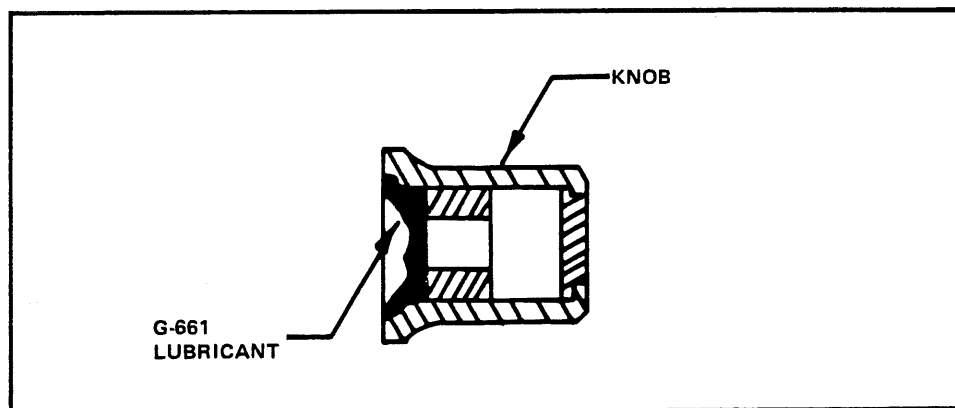

Figure 30. Lubrication of FOCUS and INTENSITY control knobs.
STEP 29. Install the FOCUS and INTENSITY knobs (see Figure 30)
(1) TPN 366-0494-00, MPL Item 2-1.
(1) Apply G-661 lubricant to both knobs as shown in Figure 30.
(2) Install the knobs on the shafts of the FOCUS and INTENSITY controls.